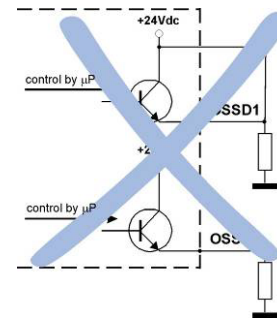

Fig. 15
- If one of these configurations (Fig.15, 16, 17) is erroneously used, the device enters into the block condition (see cap.7 “Diagnostic functions”).